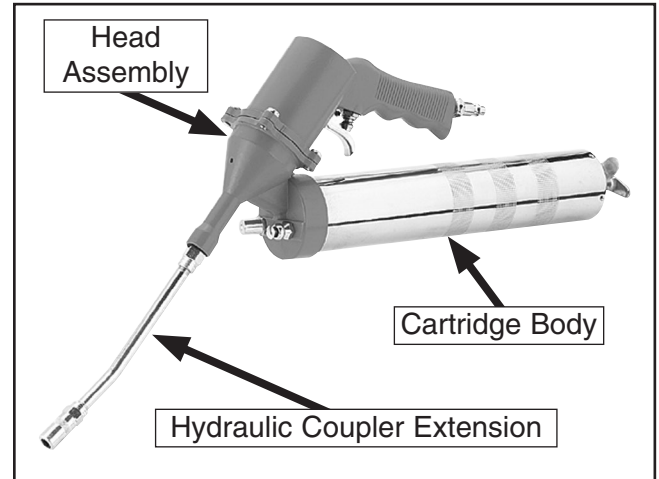

Figure 1. Model H0580.
Inventory (Figure 1)
3. Remove the head assembly (**Figure 1**) from the cartridge tube.